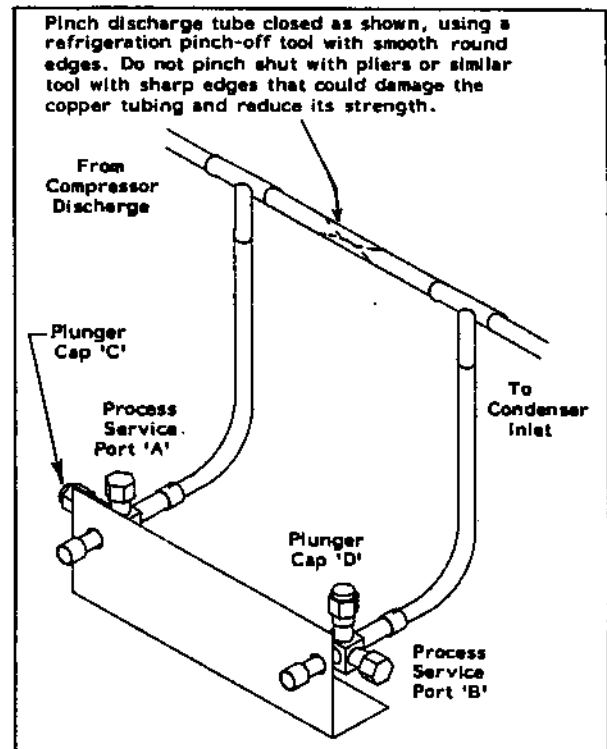

FIGURE 3
4. Evacuate the heat recovery device inter-connecting tubing and heat exchanger through the process service ports A or B shown in figure 3 and pressurize with Refrigerant 22 and perform a leak check. Release the charge used for pressurization, leak check and re-evacuate. Add 1 oz. of refrigerant for each 10 feet of additional inter-connecting tubing to the total system charge. Replace the caps and tighten.
5. Tighten the plunger cap "C" and "D" shown in figure 3. This forces down a plunger which shears a frangible plug and moves it out of the refrigerant flow path. This now permits the discharge refrigerant from the compressor to flow through valve at plunger "C" (figure 3) to the heat recovery coil heat exchanger and back through the valve at plunger "D" and then to the condenser inlet.